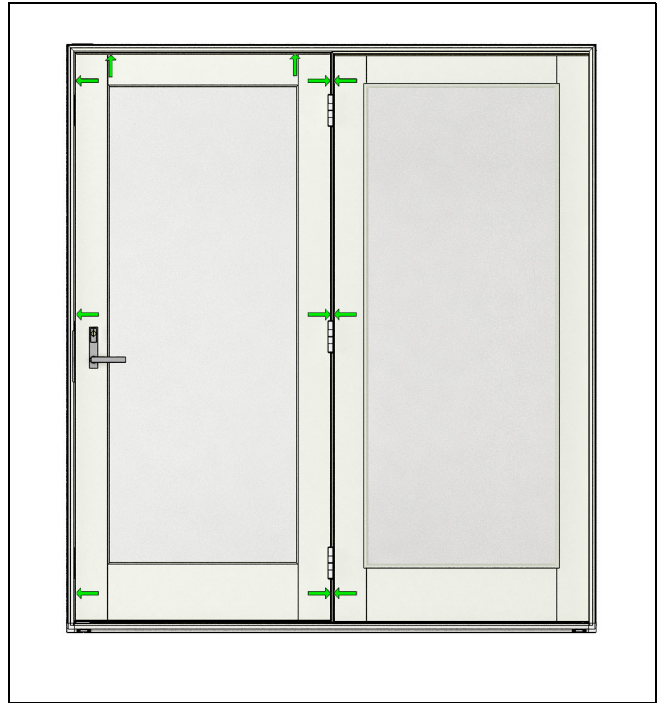

Figure 32
2. Close panel to ensure proper alignment with frame. See Figure 32.